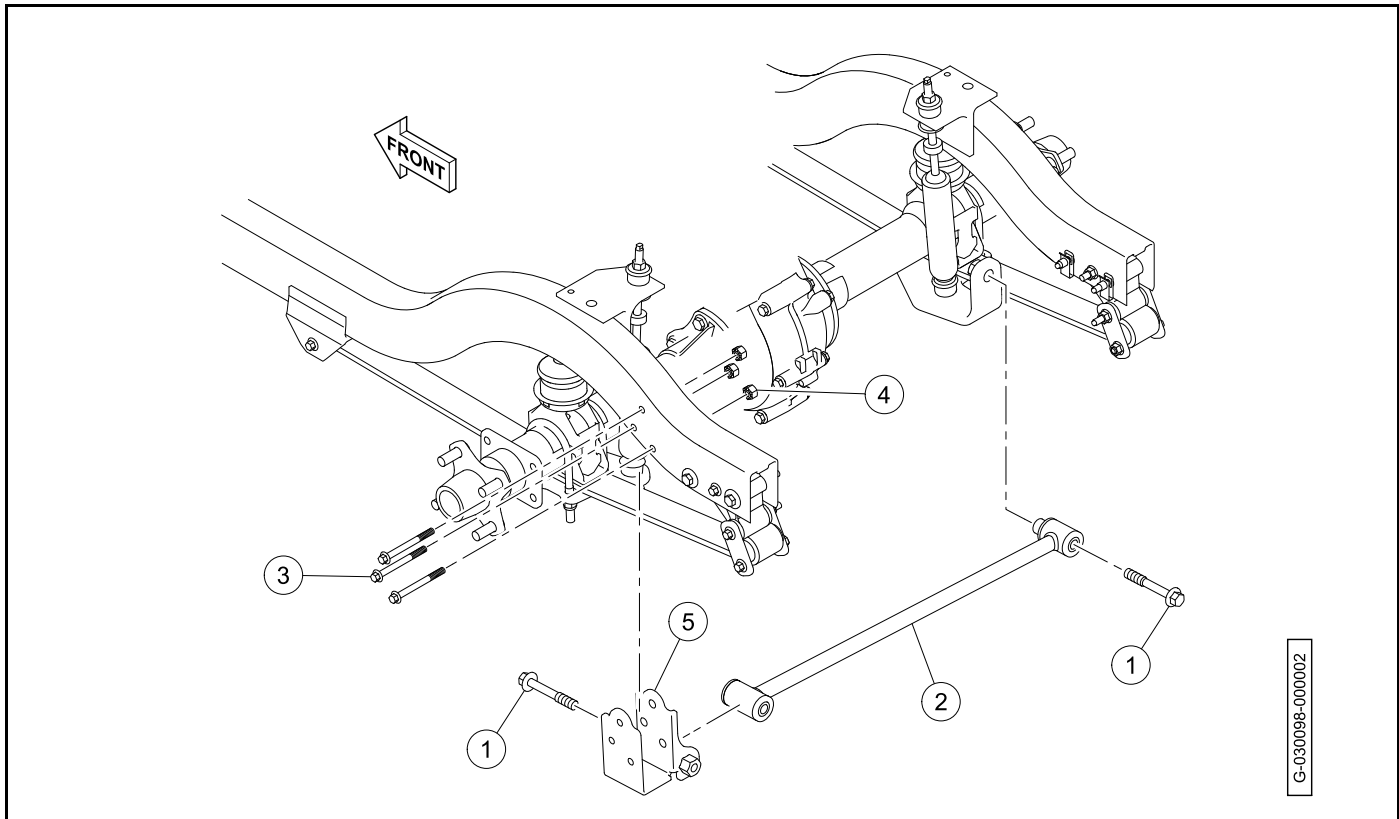

Figure 9-4 Panhard and Bracket
3. Remove the bolts (1) (**Figure 9-4, Page 9-4**).
4. Remove the panhard (2).
5. Remove the bolts (3) and nuts (4).
6. Remove the bracket (5).
1. Put the bracket (5) into position on the frame (**Figure 9-4, Page 9-4**).
2. Install the bolts (3) and nuts (4). Tighten the bolts to 18.5 lb·ft (25 N·m).
3. Put the panhard (2) into position on the vehicle.
4. Install the bolts (1). Tighten the bolts to 92 lb·ft (125 N·m).